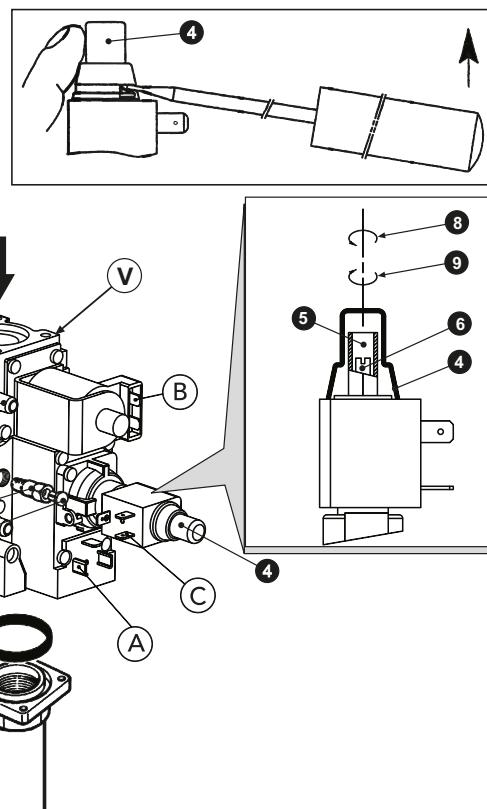

fig. 4 - Gas conversion
Pressure adjustment operations must be carried out with the boiler working, using the pressure regulator on the 2-stage gas valves (see fig. 4).
3. Remove the protection cap of the pressure regulator 4 of fig. 4.
1. Turn the control thermostat knob slowly clockwise to the 1st click; the gas valve will thus be supplied only on connections A and B (see fig. 4).
2. Turn the screw 6 of fig. 4, checking that the pressure matches the values given in the technical data table in sec. 5.3.
1. Turn the control thermostat knob to maximum; the gas valve will now be supplied only on connections A, B and C (see fig. 4).
2. Turn the screw 5 of fig. 4, checking that the pressure matches the values given in the technical data table in sec. 5.3.
2. Remove the small cap 3 (fig. 4) from the gas valve, screw the ignition "STEP" regulator 2 (contained in the conversion kit) onto the valve and refit the cap 3 on the regulator.
Carry out the same operations described above, making sure to remove the ignition "STEP" regulator 2 of fig. 4 of the gas valve; the cap 3 of fig. 4 must be fitted directly on the valve.